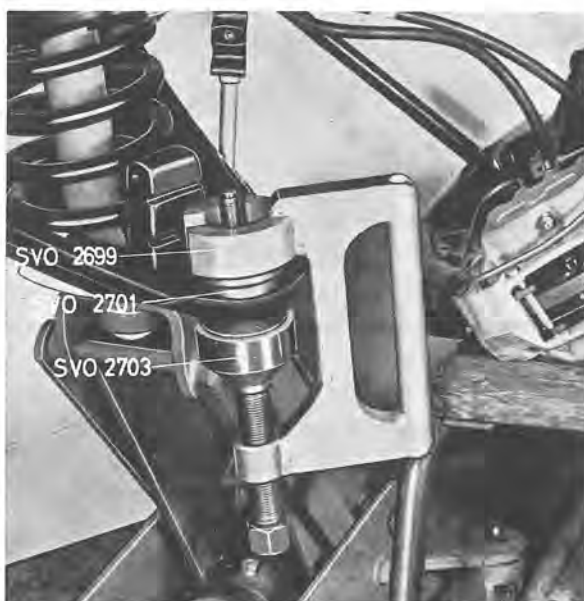

Fig. 6-30. Installing lower ball joint
2. Press the ball joints in the control arm with tools SVO 2699 + 2701 + 2703, see Fig. 6-30. If the ball joint is fitted at a slant turn the tool 180° and press the ball joint in correctly. The joint must not be loose in the control arm.